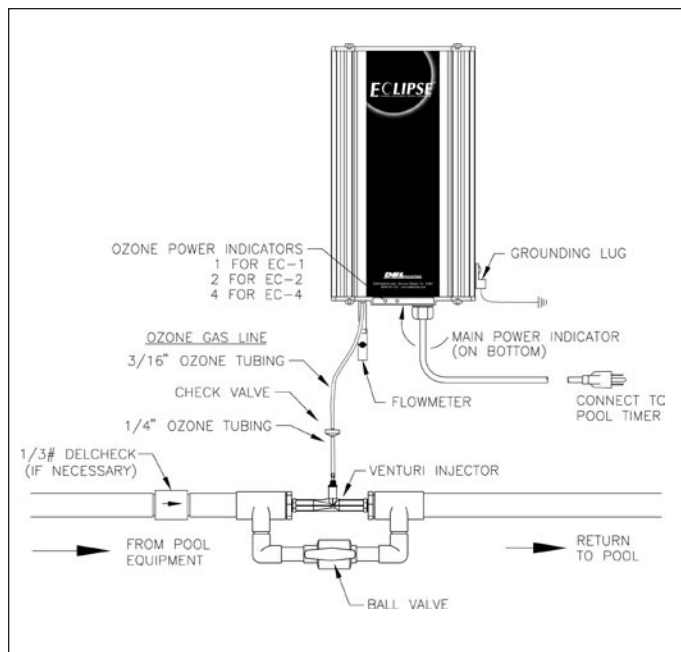

Figure 3 Installation Diagram
**2D-3. Ozone Gas Line - refer to Figures 3 & 4**
3. Adjust the injector manifold ball valve to half open (45°) as shown in Figure 3.